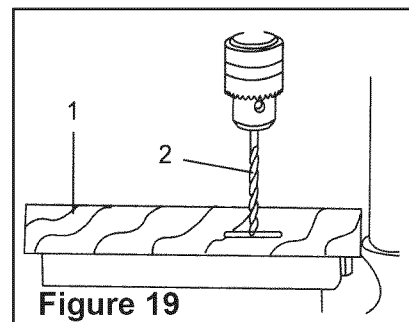

Figure 19
#### Workpiece method (Figure 19 and 20)
1. Mark the depth (2) of the hole on the side of the workpiece.(1) (Figure 19).
2. With the switch "OFF", bring the drill bit (2) down until the tip is even with the mark (Figure 19).